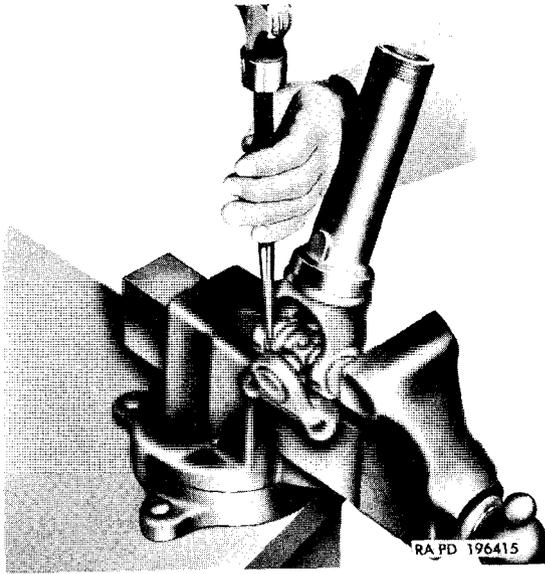

Figure 166. Removing bearing snap rings.
- (1) Place the universal joint in a vise and compress the two bearings sufficiently to remove the two snap rings (fig. 166). Change the position of the joint in the vise and remove the other two snap rings.